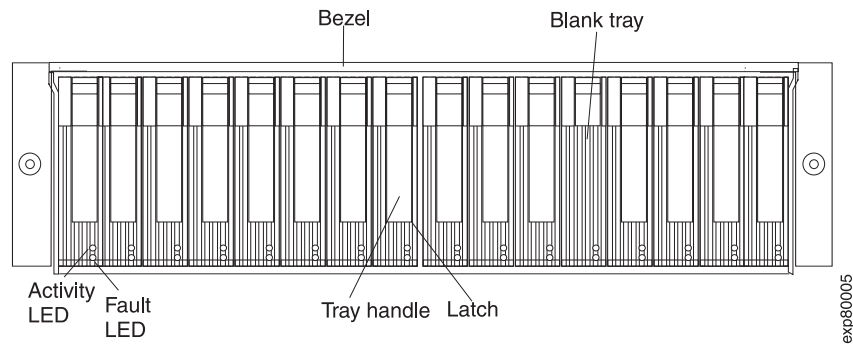

Figure 33. Hot-swap E-DDM LEDs
2. Check for Fault LEDs shown in Figure 33 on page 71. If any amber LEDs are lit, see “Solving problems” on page 91.